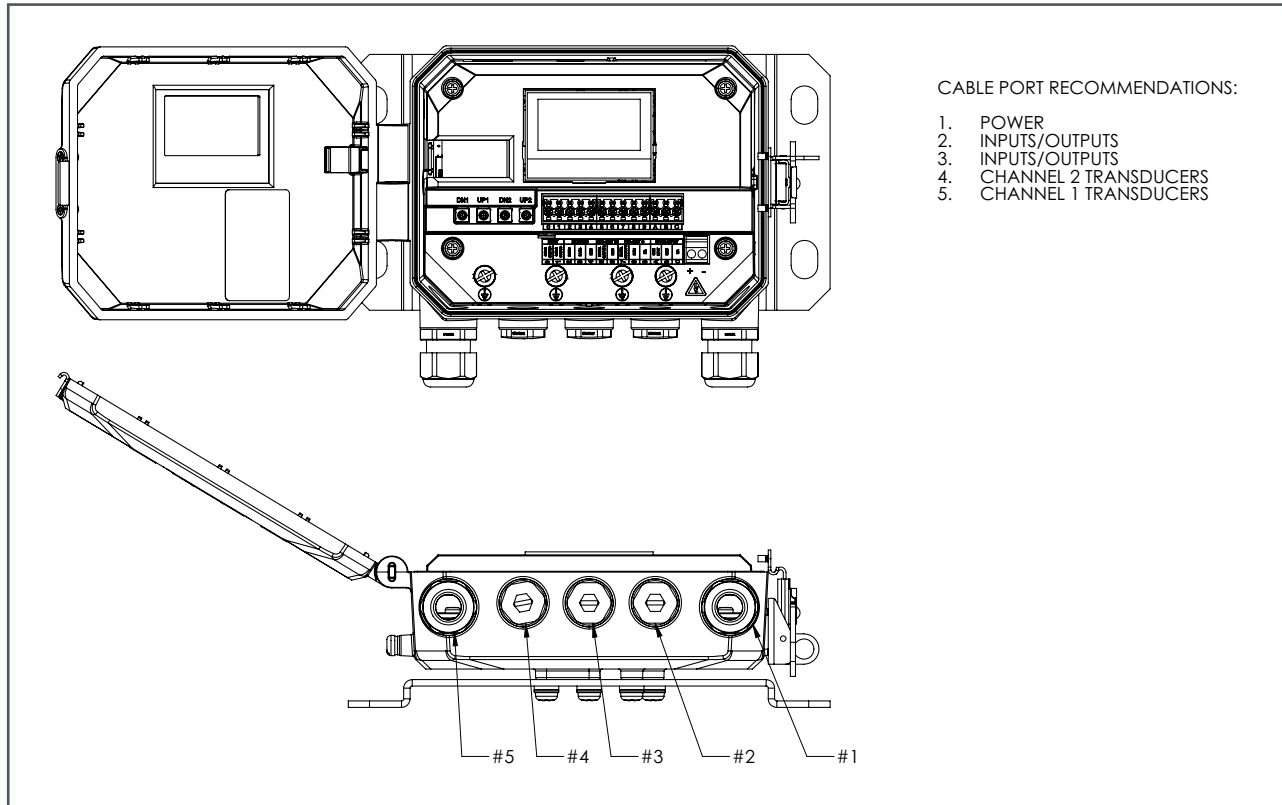

Figure 25: Recommended Cable Gland Usage
For proper wiring, the power lines, transducer cable and I/O lines must be routed through the appropriate cable glands (see Figure 25 below). Also, refer to Wiring Cable Specifications and Requirements for the required cable specifications.
2. Wire the transducer cables into AT620 through ports 4 and 5 per *Figure 25*.